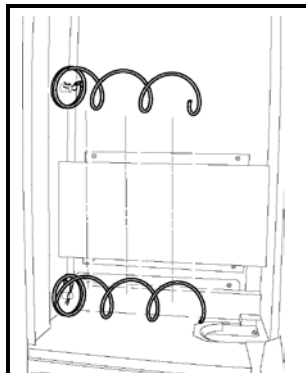

Figure 9a. Cup Spirals
1. Check that the top and bottom spirals are aligned with each other and have room for three (3) stacks of cups. See **Figure 9a**.